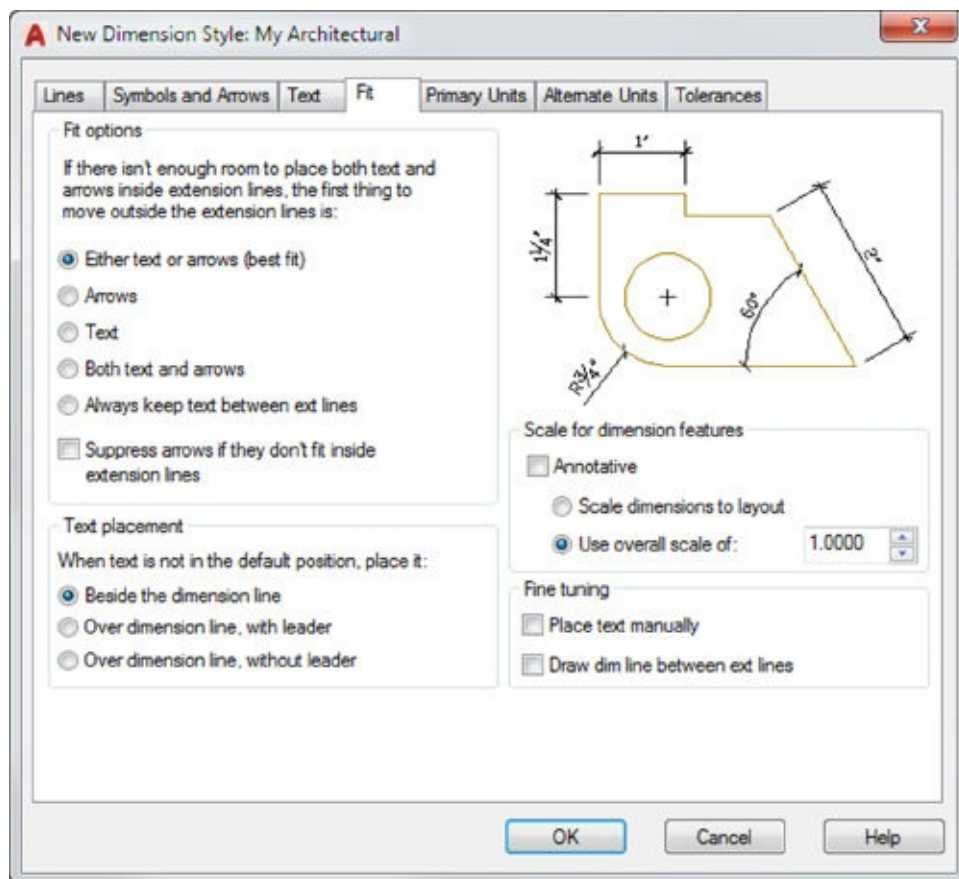

FIGURE 11.10 The Fit options
6. Click the Fit tab of the New Dimension Style dialog box to display the options for overall dimension scale and miscellaneous settings (see Figure 11.10).